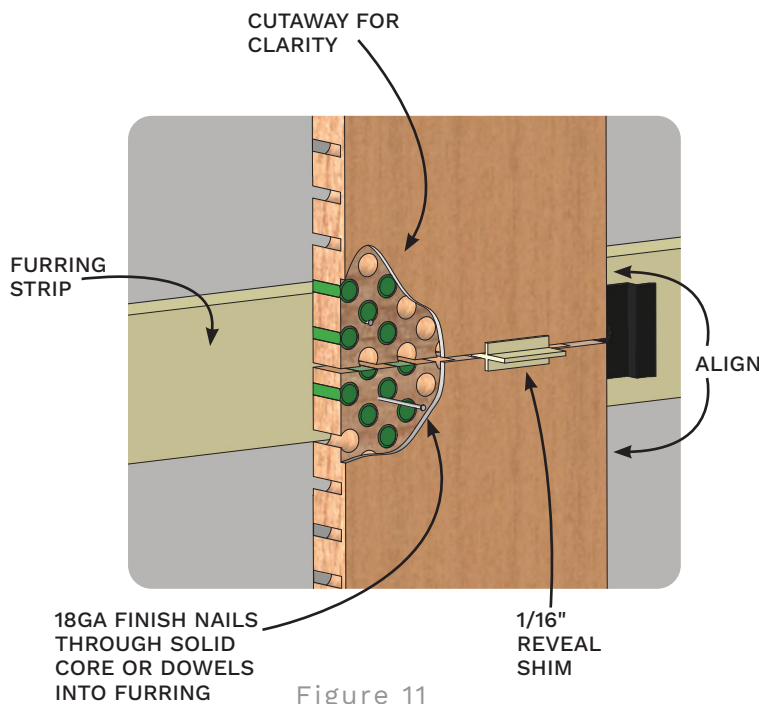

Figure 11
- Use a straight edge or a laser to keep the starting edge even (see Figure 11)
- Position member end centered on furring (see Figure 11).
- Use 18ga finish nails or trim head fastener to attach wood member to furring (see Figure 11).
- Ensure that the attachment fastener goes through the solid core and/or through the dowel filler (see Figure 11).
- Place a 1/16" shim between planks to set gap (see Figure 11).